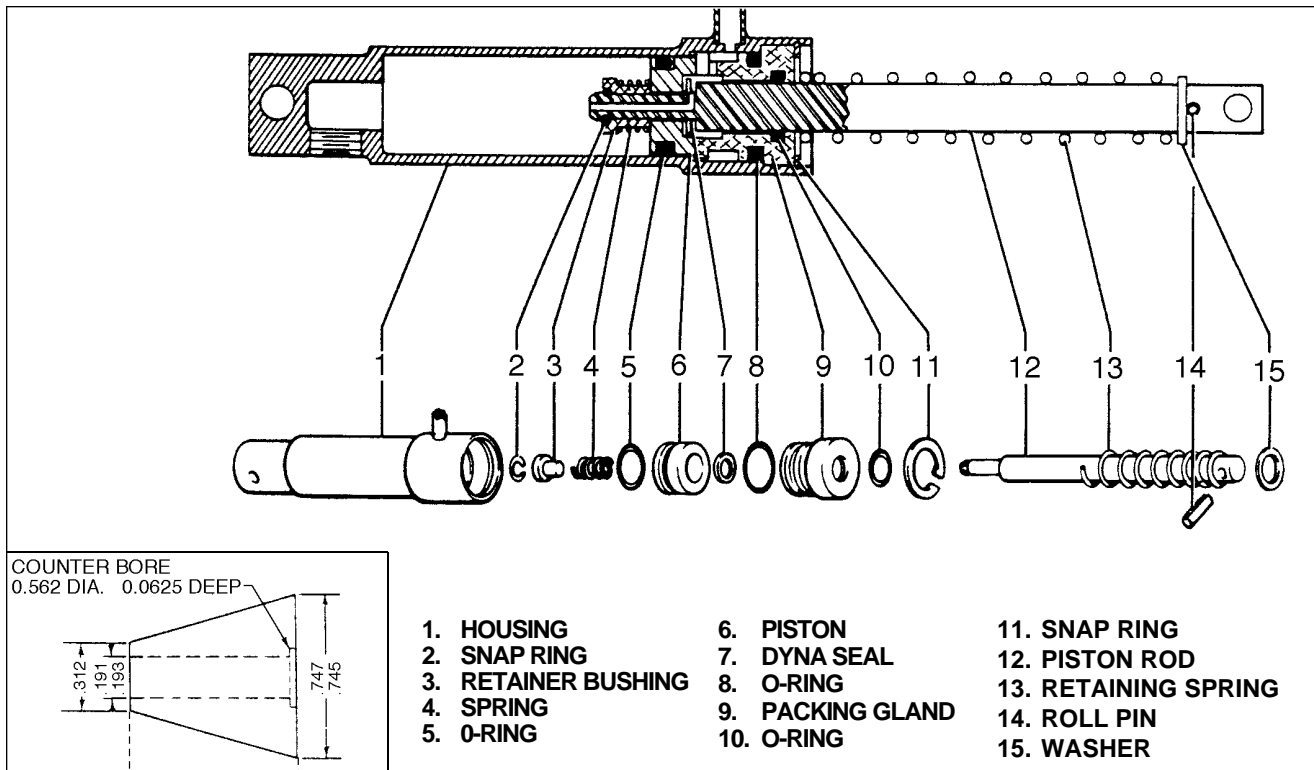

Figure 7-13. Brake Master Cylinder (Hand/Parking Brake)
7-35. DISASSEMBLY OF BRAKE MASTER CYLINDER. (Refer to Figure 7-13.)
7-37 ASSEMBLY OF BRAKE MASTER CYLINDER. (Refer to Figure 7-13.)
a. Install new O-rings on the inside and outside of the packing gland (9) and on the outside of the piston (6). (When installing teflon O-ring (5) on piston, it is recommended that it be installed with the use of a cone placed against the piston. The cone may be constructed of plastic or metal from dimensions shown in Figure 7-13.)
b. To assemble the piston rod assembly, install the following parts on the rod (12) in order, the roll pin (14), return spring retainer washer (15), return spring (13), packing gland (9) with new O-rings, seal (10), piston (6) with new O-ring, spring (4) and retainer bushing (3). Secure these pieces with the small snap ring (2) on the end of the rod.
c. Insert the piston rod assembly in the cylinder (1) and secure the packing gland with snap ring (11).